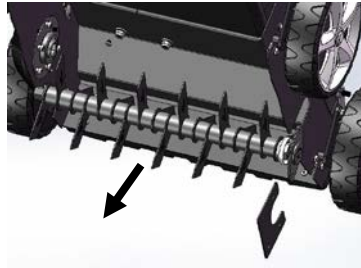

Fig.11B
1. Remove the four screws. (Fig.11B)